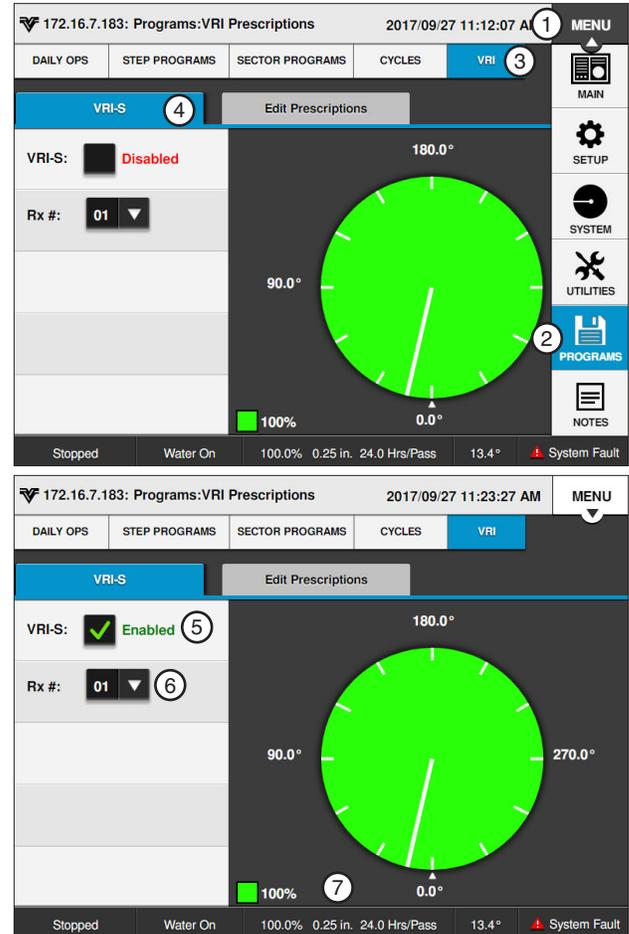

Figure 157-1 1. Menu
Push **Menu**, **Programs** and **VRI** to display the VRI screen. Refer to Figure 157-1.
1. Push **Menu**, **Programs**, **VRI** and **VRI-S** to display the VRI-S screen. Refer to Figure 157-1.